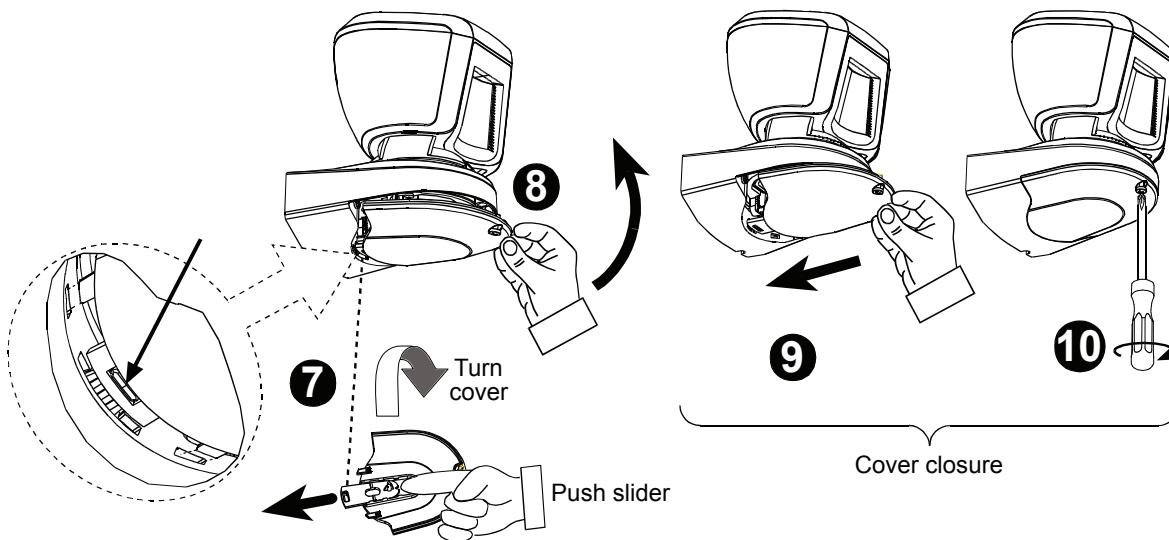

Figure 5 - Adjustment and Cover Closure
**B.** Adjust detector's horizontal and vertical angles (see Fig. 5), according to the surveyed ground surface. The vertical angle indicator position for various installation height and coverage distance combinations is detailed in Table 2 (the information refers to a relatively flat surveyed area. however, in any case the vertical adjustment should be verified by walk-test).
The LED blink, described above, is operative only in Walk-Test mode. Upon each full detection (LED lights steadily for 2 seconds) the control panel receives the alarm. If required, perform the detector's horizontal / vertical adjustments (see section 3.4 and Figure 5).
**3.6 Cover Closure** (see Fig. 5, steps 7-10)